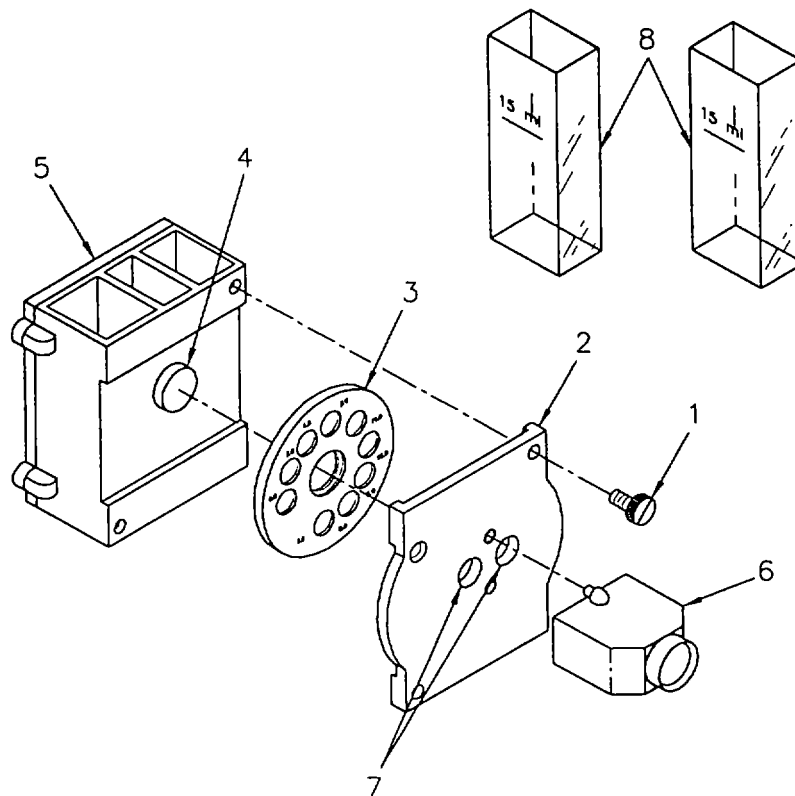

Figure 2-4. Color Comparator
- c. Perform chloride residual tests on source water as follows (Figure 2-4).
- (1) Remove two screws (1) and comparator housing cover (2) from comparator housing (5).
- (2) Place chlorine disc (3) on the comparator housing hub (4).
- (3) Position comparator housing cover (2) on comparator housing (5) and secure with two screws (1).
- (4) Place prism eyepiece (6) over sample cell windows (7).
- (5) Select two clean comparator cells (8).